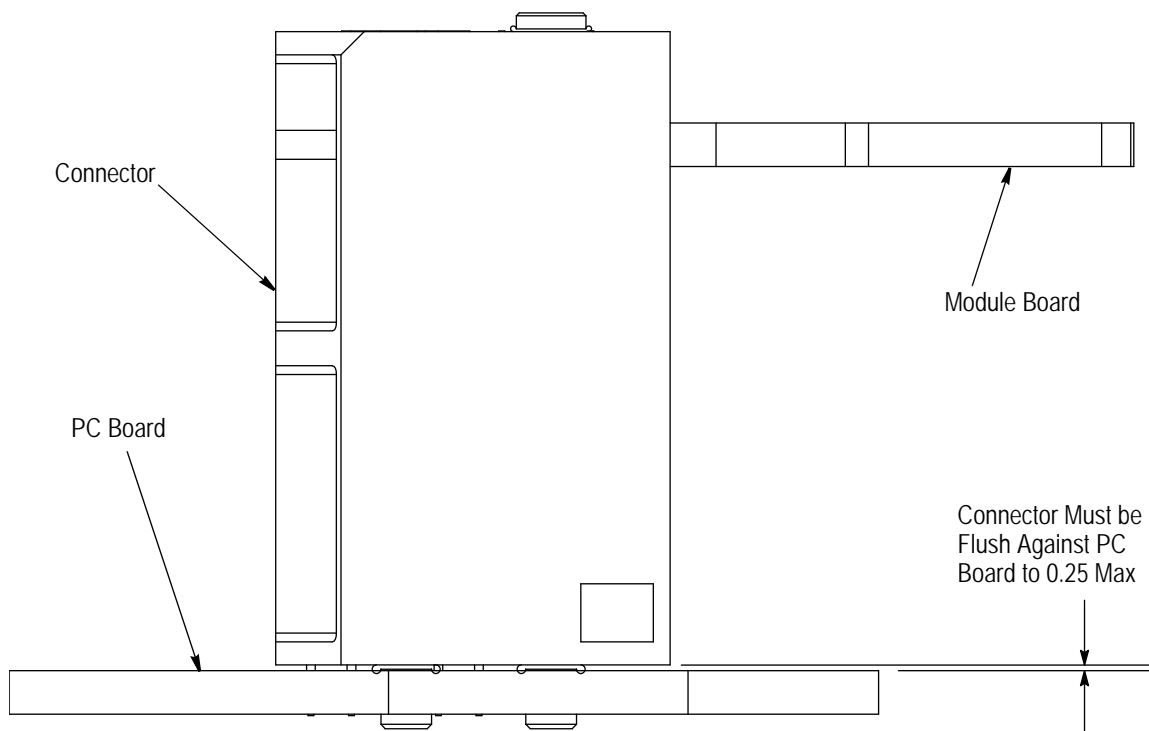

Figure 5
A. Initial Positioning (Figure 5)
Prior to module insertion, the module board should be positioned such that its keying slots correspond to one another. The module board should be inserted into the card guides and pushed in until it fully seats into the connector. See Figure 5.
The connector must seat on the pc board to the dimensions shown in Figure 5.